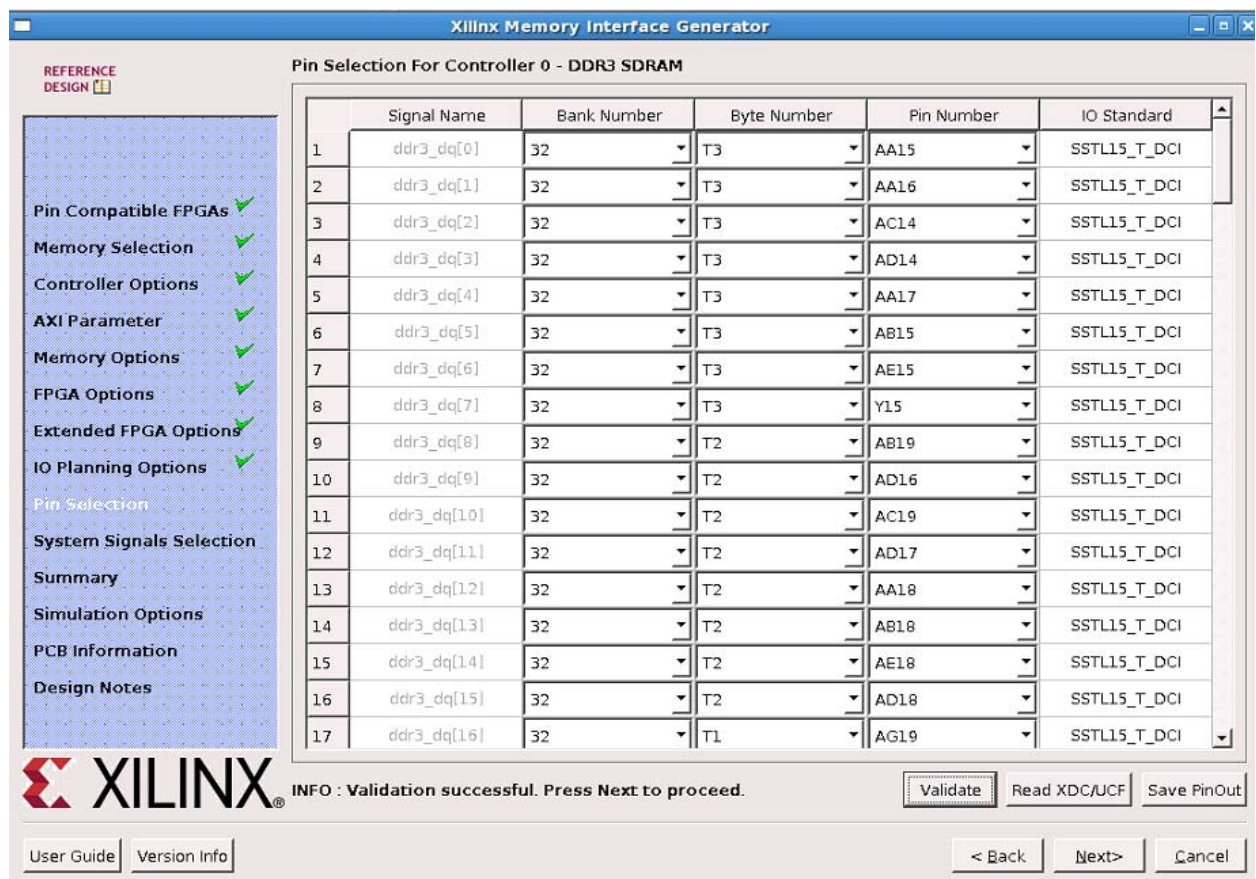

Figure 35: MIG Pin Selection Using an Existing Pinout
15. For **Pin Selection** a user would normally use the pulldown menus in the GUI to enter the pin out information for I/O signals required by the memory interface (Figure 35).